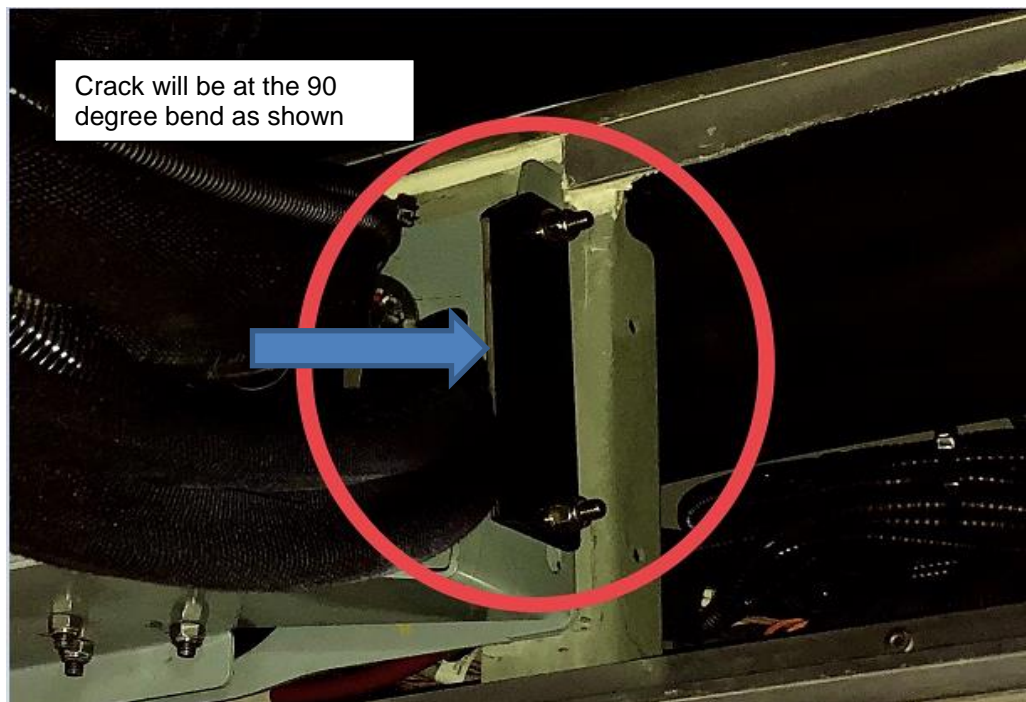

FIGURE 2: SHOWN VIEW OF EGS SUPPORT BRACKET
5. Inspect the EGS support brackets for cracks at the 90-degree bend on the mount brackets that are secured to the upper bulkhead bracket. This will be at the forward and rear section in the joint area. See Figure 2.